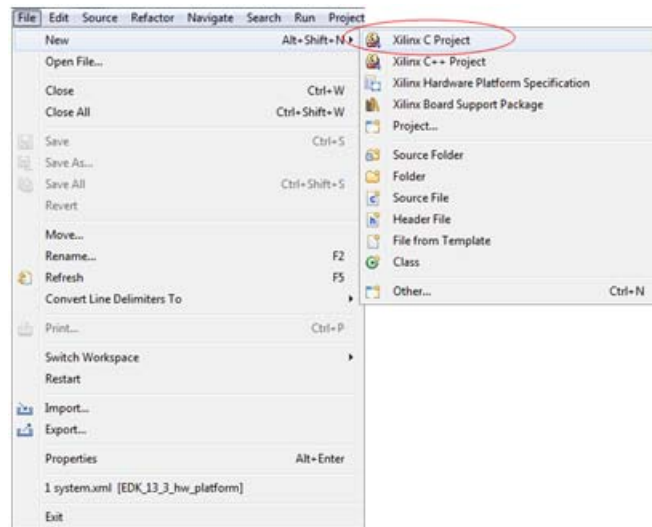

Figure 1-22: Create New C Project
4. To create a new C project, select **File > New > Xilinx C Project**, as shown in Figure 1-22.